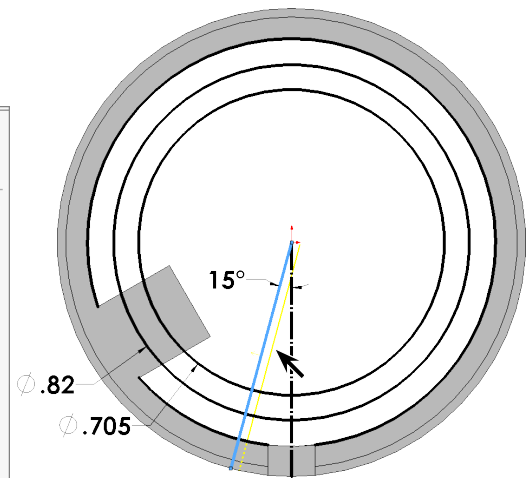

Fig. 88
- The yellow offset should be on **right side** of original line, **Fig. 88**.